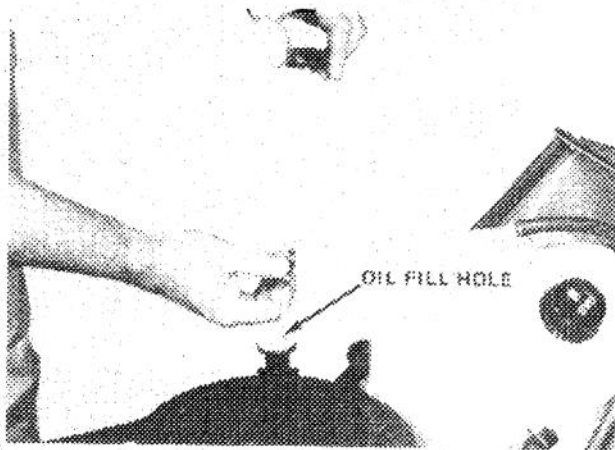

Figure 13
2. Unscrew and remove the dipstick from the oil fill tube (Fig. 13).